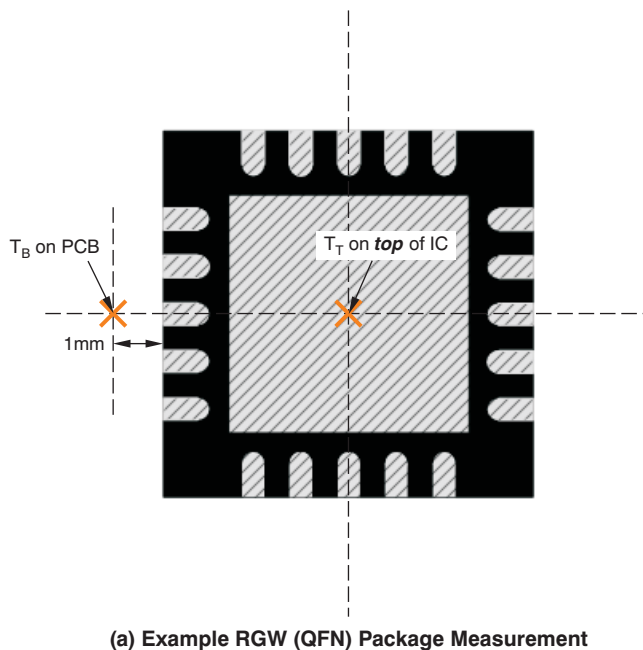

Figure 43. Measuring Points For T_T And T_B
T_B is the PCB temperature measured 1mm away from the IC package *on the PCB surface* (see Figure 43). (3)